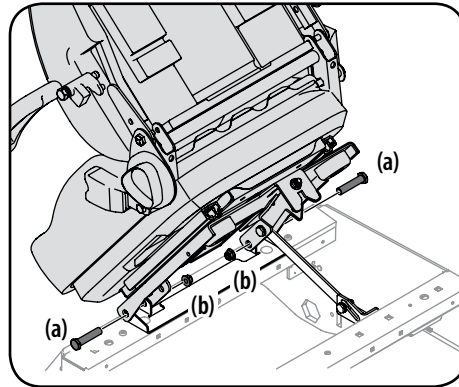

Figure 2-6
- Remove the two flange lock nuts (b) and shoulder bolts (a) from the manual bag. See Figure 2-6.
- Place the seat into position and secure the seat into place with the hardware as shown in Figure 2-6.